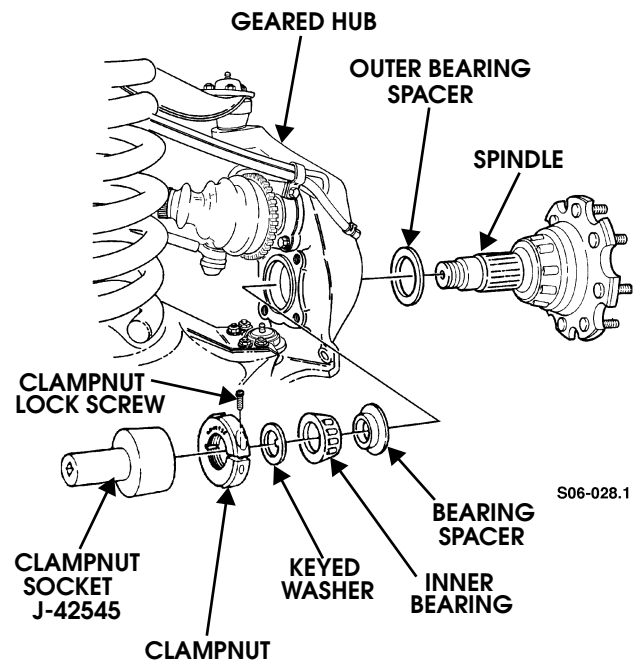

Figure 9-37: Clamp Nut Removal
4. Remove clampnut lock screw from clampnut (Figure 9-37).
- Inspect spindle for rough or corroded sealing surface. Replace if damaged (Figure 9-37).
- Install outer bearing spacer and spindle in geared hub (Figure 9-37).